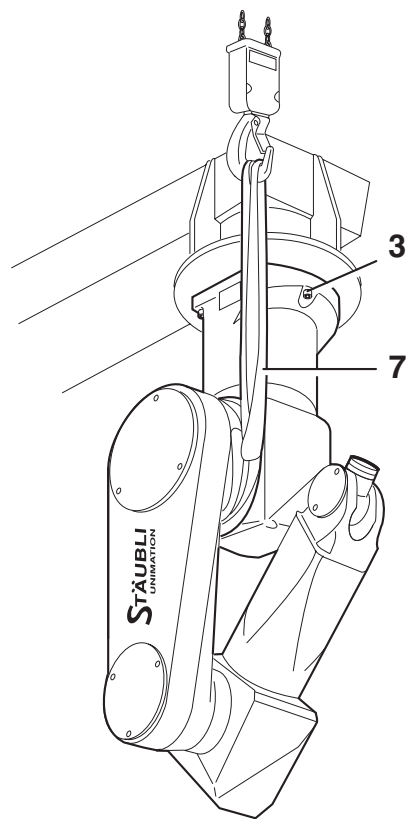

Figure 3.5
- Place the fabric sling (7) around joint 2 as shown on figure 3.5.